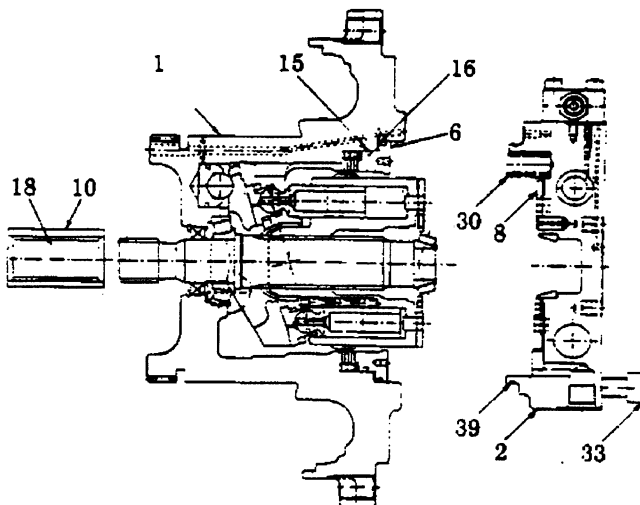

Fig. 20 Installing rear cover
- 14) Install coupling (10). (See Fig. 20)